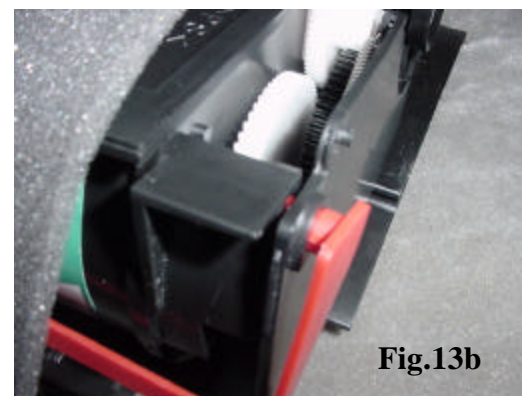

Fig.13b
13. The Optra M cartridge has no shutter door to protect the OPC during shipping. The OEM cartridge comes with a protective foam (Fig.13) that covers the OPC and is secured by the shipping lock (Fig.13a). If the OEM foam is not available to use, it is suggested that you use some type of pad foam to prevent damage to the OPC when shipping. Also be sure to use the shipping lock. The shipping lock secures the hopper to the cartridge shell preventing movement which can also cause damage to the OPC during shipping (Fig.13b).